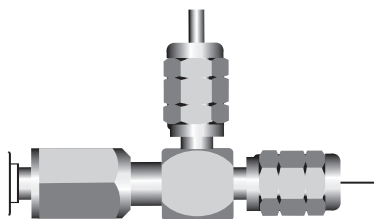

Figure 7.
2.18 The system is now ready for use (Refer to Figure 7).
3.7 The system is now ready for use. (Refer to Figure 7). If a column with different length or ID has been installed, it may be necessary to refer to Table 2, and adjust either the column head pressure, or length, as described in the note in section 2.17.